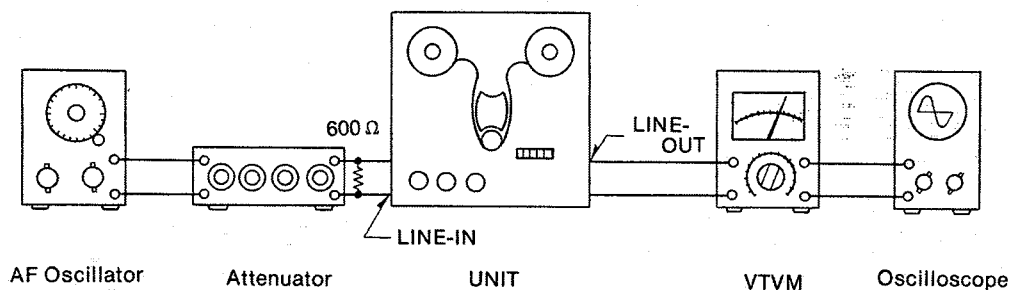

Fig. 36
Standard recording level	<ol style="list-style-type: none"> 1. Test equipment connections are shown in fig. 36. 2. Supply 1 kHz signal ($-24\text{dB} \pm 3\text{dB}$) from AF oscillator, through ATT, to LINE-IN jacks. 3. Set the output control to "8" position on front panel and confirm that the output level at LINE-OUT jacks on VTVM becomes 0.55V. <p>[Adjustment]</p> <ol style="list-style-type: none"> 1. If the measured value is not within standard value, adjust the Line-in level adjustment VR, VR101 (L-CH) and VR201 (R-CH), (See fig. 37.) <div data-bbox="545 810 1286 916" style="border: 1px solid black; padding: 5px; margin-top: 10px;"> Standard recording levels: Line-in: $-24\text{dB} \pm 3\text{dB}$ Mic-in: $-72\text{dB} \pm 2\text{dB}$ </div>
<p>Level meter for source monitor</p>	<ol style="list-style-type: none"> 1. Test equipment connections are shown in fig. 36. 2. Set the monitor selector to "SOURCE" position. 3. Set the output control to "8" position on front panel. 4. Supply 1 kHz signal ($-24\text{ dB} \pm 3\text{ dB}$) from AF oscillator, through ATT, to LINE-IN jacks. 5. Adjust ATT so that the output level at LINE-OUT jacks on VTVM becomes 0.55 V. 6. Then confirm that the level meter indicates 0 VU position. <p>[Adjustment]</p> <ol style="list-style-type: none"> 1. If the level meter does not indicate 0 VU position in the above condition, adjust the level meter adjustment VR, VR108 (L-CH) and VR208 (R-CH). (See fig. 37.) <p>[Confirmation]</p> <ol style="list-style-type: none"> 1. Place unit into the above measurement condition. 2. Set the meter scale selector to "+6 dB" position. 3. Confirm that the level meter indicates within $-3 \pm 1\text{ VU}$ on "+3 dB" scale.
<p>Level meter for tape monitor</p>	<ol style="list-style-type: none"> 1. Test equipment connections are shown in fig. 36. 2. Place unit in the same condition as for "Standard recording level adjustment." 3. Thread "open" blank test tape (QZZORA218EX). 4. Set the meter scale selector to "+3 dB" position. 5. Set the monitor selector to "tape" position (both channels). 6. Set the recording mode selector to "ON" position (both channels). 7. Place unit into recording mode. 8. Then confirm that the level meter indicates 0 VU. <p>[Adjustment]</p> <ol style="list-style-type: none"> 1. If the level meter does not indicate 0 VU in the above condition, adjust the level meter adjustment VR, VR109 (L-CH) and VR209 (R-CH). (See fig. 37.)
- * Measurement instrument connections are as shown in figure 36.
<p>Dummy coil</p>	<p>The purpose of Dummy coils adjustment is to obtain overall frequency response specified with mono-channel recording. Specification: Within $\pm 2\text{dB}$ at 16kHz with relation to overall frequency response specified with stereo mode.</p> <ol style="list-style-type: none"> 1. Test equipment connections are shown in fig. 36. 2. Set tape speed selector to 19cm/s. 3. Set bias selector to "2" position. 4. Set equalizer selector to "2" position. 5. Thread blank test tape QZZORA218EX. 6. Set recording mode selectors to "ON" position. 7. Apply an input signal of 16kHz, -44dB and set the unit for recording. 8. Measure the playback outputs of both channels. 9. Next change recording mode selector L-CH only to "OFF" position. 10. Confirm whether or not R-CH playback output is, with relation to the output in step 8 above, within $\pm 2\text{dB}$. 11. If it is not, adjust dummy coil L501 so that it is within this range. 12. Next set the L-CH recording mode selector to "ON" position, and R-CH to "OFF" position. 13. Make the same measurements and adjustments described in steps 10 to 11 above. <p>(Note, however, that peaking coil L502 is to be adjusted.)</p>